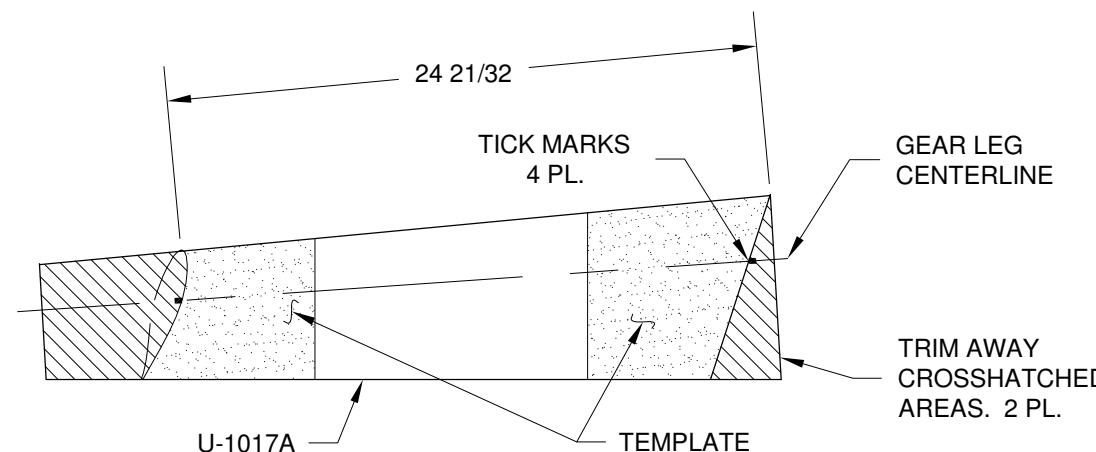

FIGURE 1: TRIMMING THE FAIRING (LEFT SHOWN)
Step 2: Remove Page 48-13 and cut along the U-1017A Upper Trim Template cut line. Smooth the template over the outside of the fairing aligning it to the leading edge parting line. Use spring clamps to hold it in place. Mark the upper cut line on the fairing blank. Make two tick marks, one on each end of the fairing as per the callout in Figure 1. Remove the template and repeat for the other blank.
Cut the template along the U-1017A Lower Trim Template cut line. Use the dimension given in Figure 1 for positioning the lower template and then outline the lower end. **NOTE: When the text of the template is visible a U-1017A_{FL} will be formed.** Make the tick marks here as well. Reverse the template so the text will not be visible and wrap it around the bottom of the other fairing blank and mark the lower cut line to form a U-1017A_{FR}.